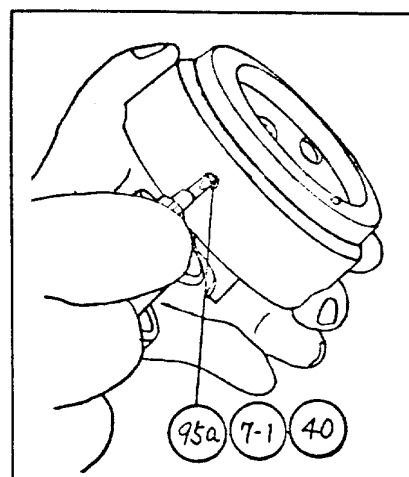

Fig. 50
- 12) Unscrewing the set screw (95a), draw out the celluloid plate (7-1) and the plate spring (40) (Fig. 50).